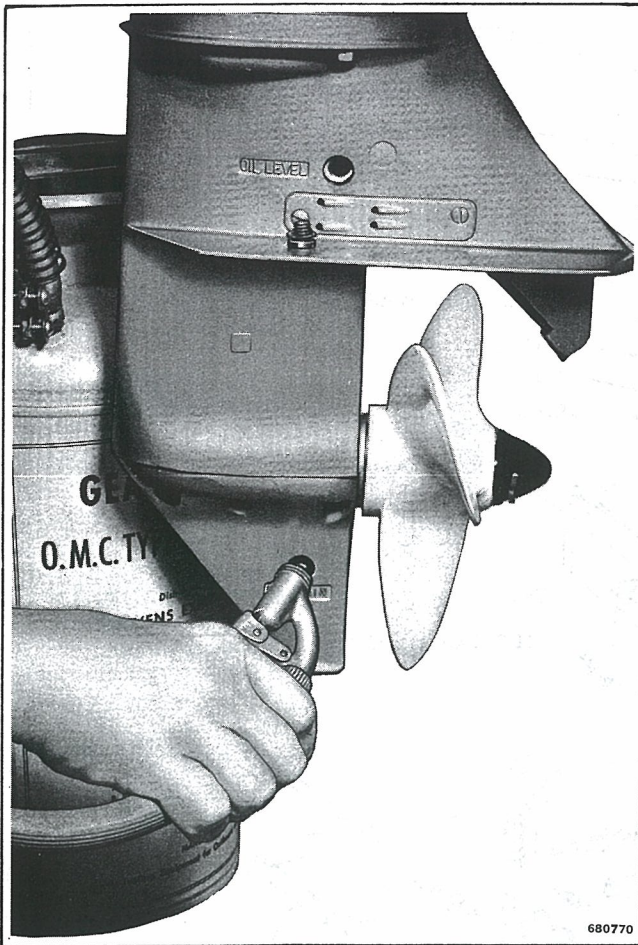

Figure 6-21. Filling Gearcase
d. Attach gearcase to exhaust housing with screws dipped in OMC Gasket Sealing Compound. Install new drive pin, propeller, and propeller nut, using new cotter pin. Fill gearcase with OMC Type "C" lubricant. See Figure 6-21.
b. Reassemble gearcase, exhaust housing, and power head as described in Section 5, Power Head. Fill gearcase with OMC Type "C" lubricant. See Figure 6-21.